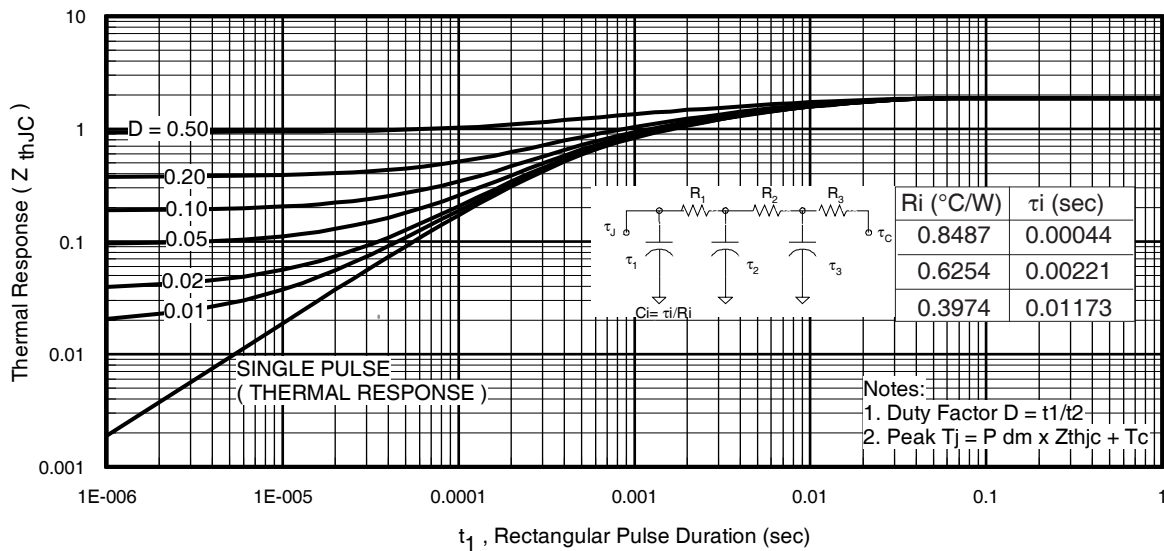
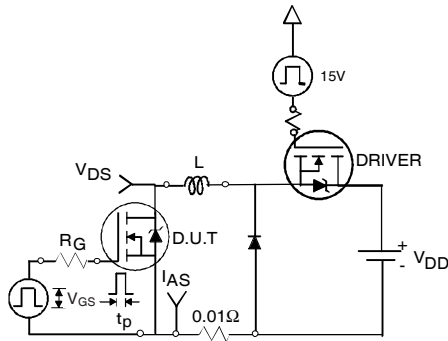

Fig 11. Maximum Effective Transient Thermal Impedance, Junction-to-Case
Fig 12a. Unclamped Inductive Test Circuit
- ① Repetitive rating; pulse width limited by max. junction temperature. (See fig. 11).
- ② Limited by T_{Jmax} , starting $T_J = 25^\circ\text{C}$, $L = 0.18mH$, $R_G = 25\Omega$, $I_{AS} = 31A$, $V_{GS} = 10V$. Part not recommended for use above this value.
- ③ $I_{SD} \leq 31A$, $di/dt \leq 840A/\mu s$, $V_{DD} \leq V_{(BR)DSS}$, $T_J \leq 175^\circ\text{C}$.
- ④ Pulse width $\leq 1.0ms$; duty cycle $\leq 2\%$.
- ⑤ $C_{oss\text{ eff.}}$ is a fixed capacitance that gives the same charging time as C_{oss} while V_{DS} is rising from 0 to 80% V_{DSS} .
- ⑥ Limited by T_{Jmax} , see Fig.12a, 12b, 15, 16 for typical repetitive avalanche performance.
- ⑦ This value determined from sample failure population. 100% tested to this value in production.
- ⑧ This is applied to D²Pak, when mounted on 1" square PCB (FR-4 or G-10 Material). For recommended footprint and soldering techniques refer to application note #AN-994.
- ⑨ R_θ is rated at T_J of approximately 90°C .
3. Equation below based on circuit and waveforms shown in Figures 12a, 12b.
$Z_{thJC}(D, t_{av})$ = Transient thermal resistance, see figure 11)